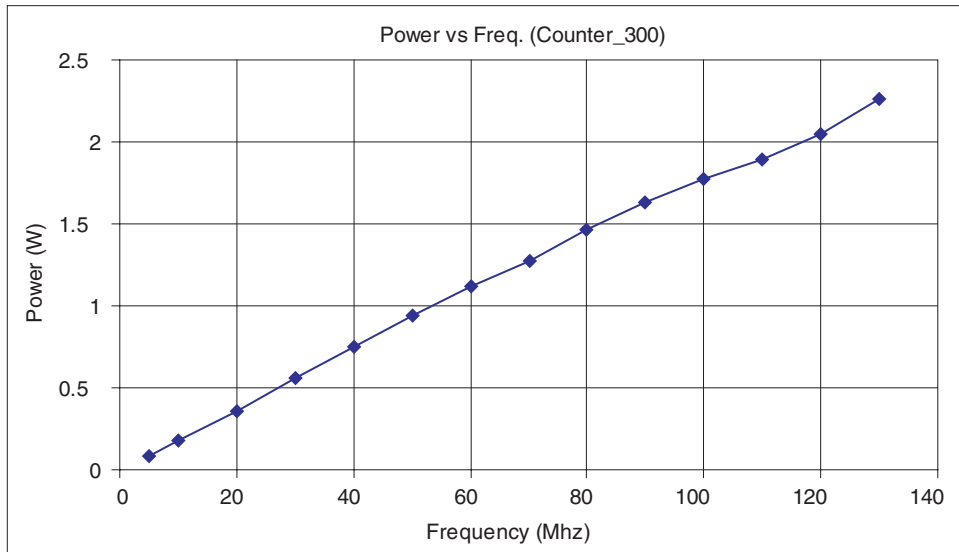

Figure 22: Power Consumption
Figure 22 exhibits the power consumption in an EclipsePlus QL7100 device. The chip was filled with (300) 8-bit counters—approximately 76% logic cell utilization.